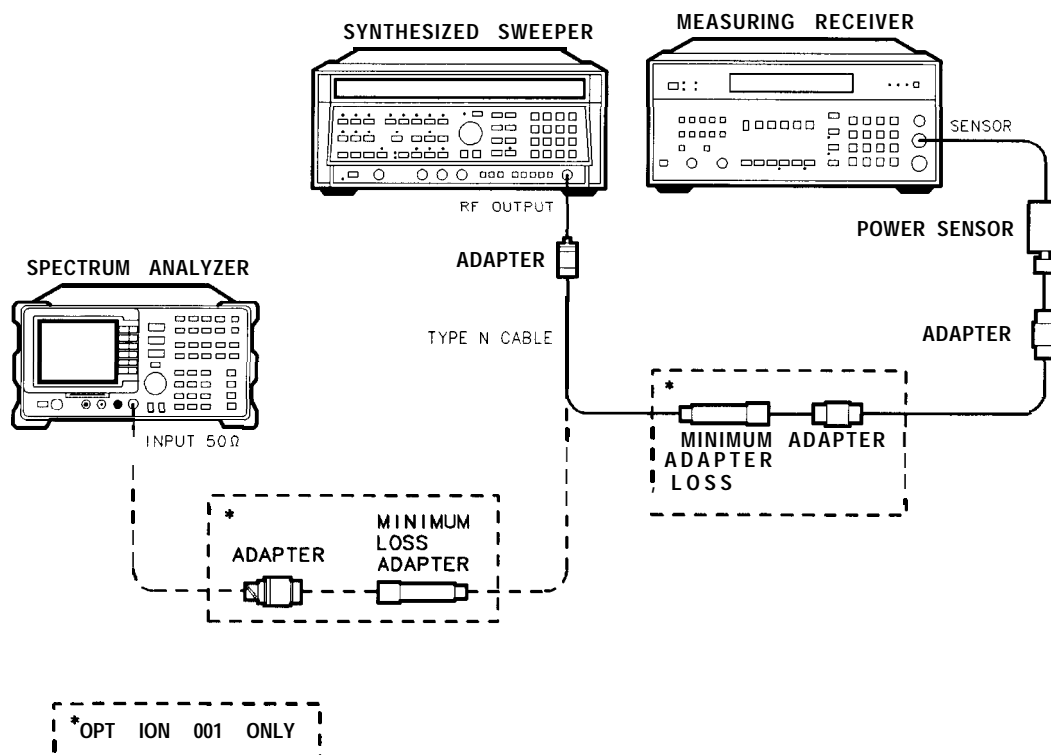

Figure 1-19. Other Input Related Spurious Test Setup
3. Connect the equipment as shown in Figure 1-19. Connect the output of the synthesizer to the power sensor using adapters.
Option 001 only: Use the minimum loss adapter and 75 Ω adapter as shown in Figure 1-19.